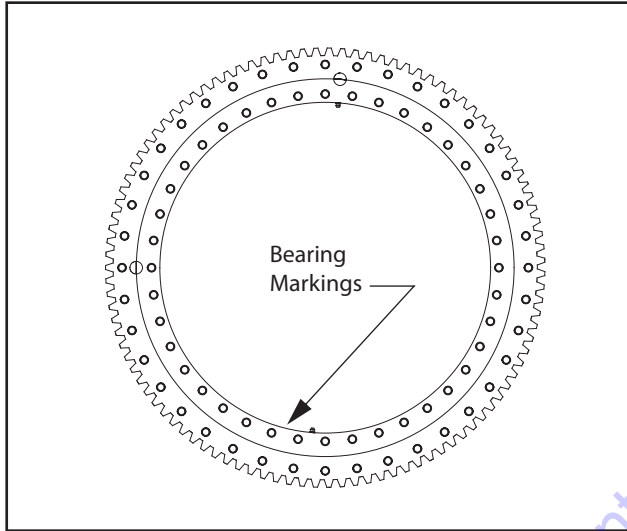

Figure 3-67. Bearing Marking Location
7. Determine which model turntable bearing is installed by checking location shown in Figure 3-67. and comparing with markings in Table 3-6.